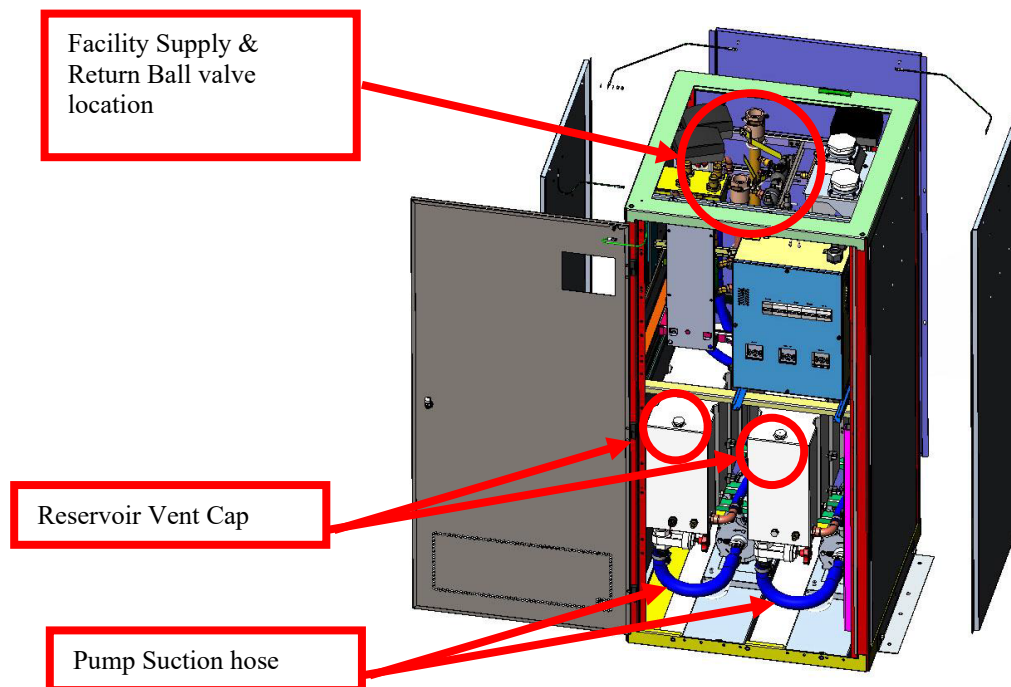

Figure 1 Location of Facility Supply & Return Ball Valves
4. Lockout/Tagout and close Facility Supply and Return ball valves on top of system (Refer to Figure 1 below) and drain heat exchanger to be removed (through ball valve on associated pump). Refer to AAVID Manual #820-0190 (Refer to GE MR Service Safety Manual 5452735).